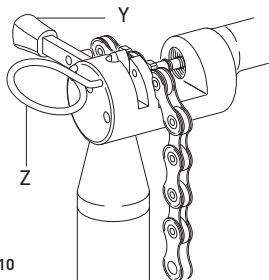

Fig.10
- Clamp the link with the special clamping device (Z - Fig. 10).
- Check that the tongue of tool UT-CN400 is in the external position (Y - Fig. 10).